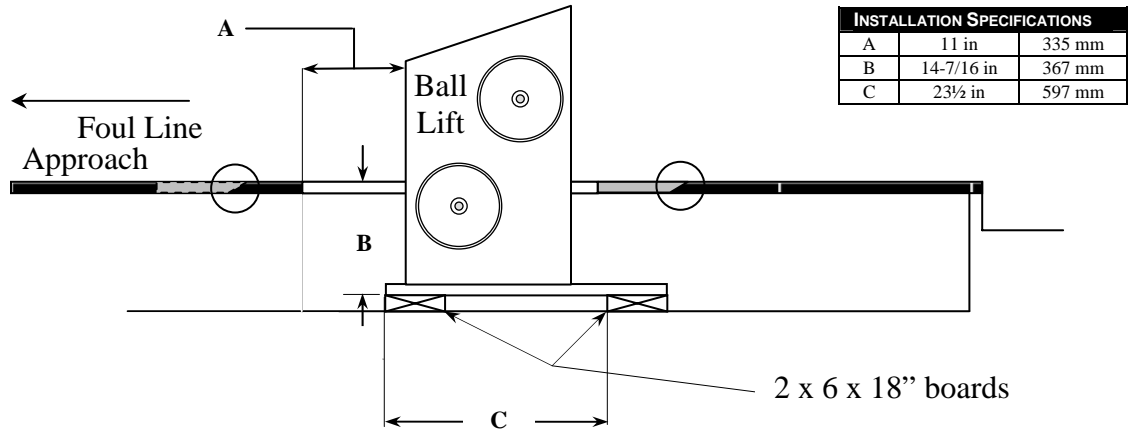

Figure 3, Ball Lift Installation – Side View
4. When installing the Ball Lift on wood approaches, for the front and rear trap door cutouts (E and F on Figure 2), make angled cuts to provide a “lip” for the pieces to rest upon the subfloor structure to keep them in place, as shown in Figure 3. For the Ball Lift cutout, make straight cuts.
7. Place the other 2 x 6 x 18-inch board on the subfloor parallel to the first board with its front edge 23.5 inches (597 mm) from the first board’s front edge (see Figure 3).